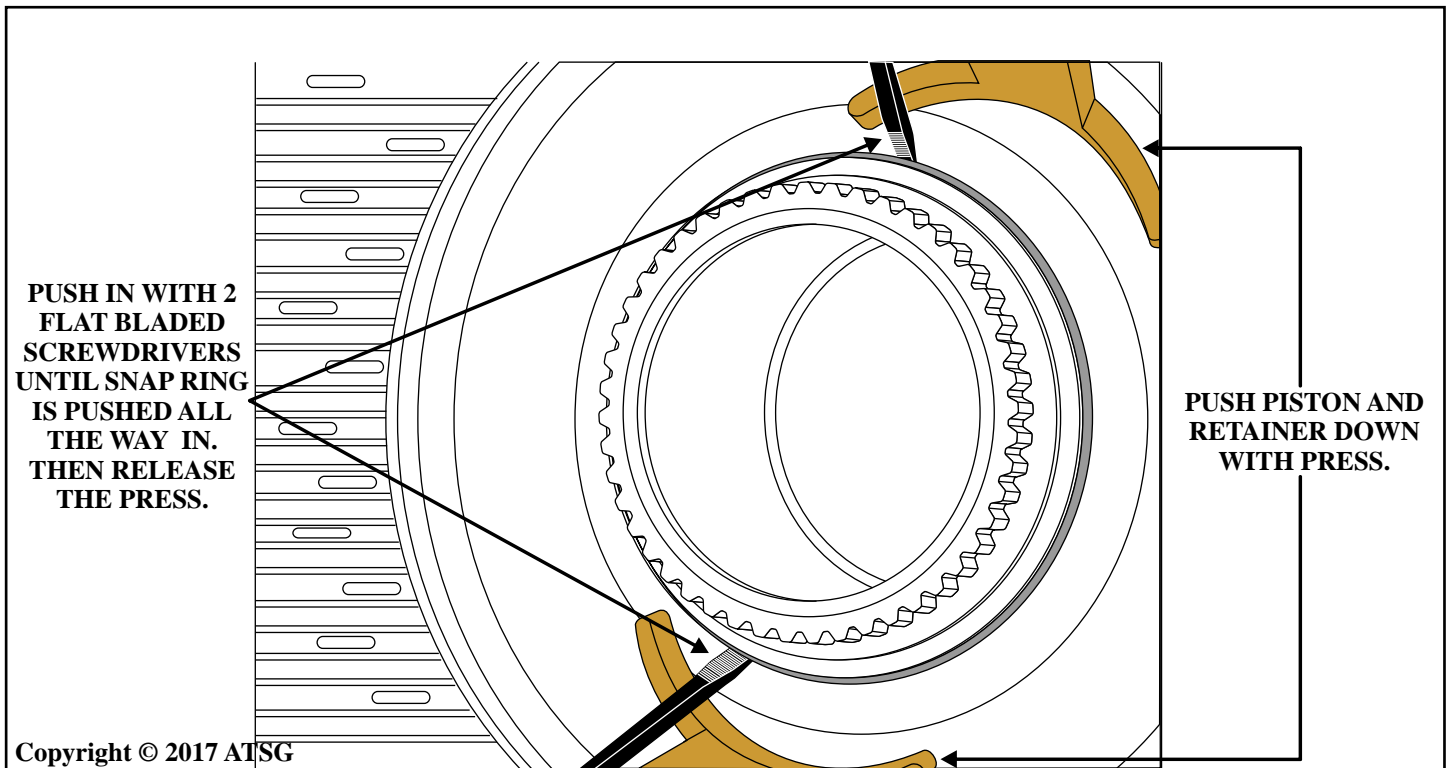

Figure 1
CORRECTION: First use a spring press to hold the piston and retainer down as seen in figure 1. Next, use two (2) flat bladed screw drivers held 180° apart and PUSH IN on the snap ring as shown in figure 1. When the snap ring is pushed in far enough, release the press and the piston and retainer can now be removed.